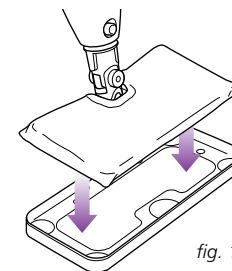

fig. 12
- The Carpet Glider can be used with the Sonic mop head to lightly steam your carpet and area rugs. Just place the mop head with the Sonic Lift™ cleaning pad attached (shaggy side down) into the glider. (fig. 12)